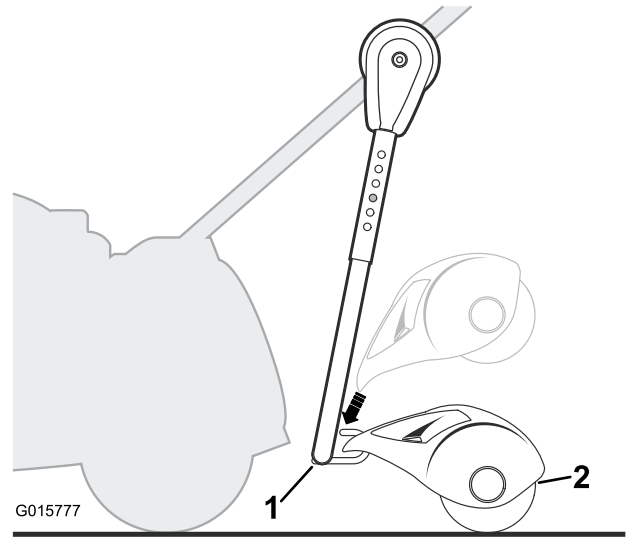

Figure 6
3. Attach the sand-filled roller assembly onto hitch tube hook as shown in Figure 6.